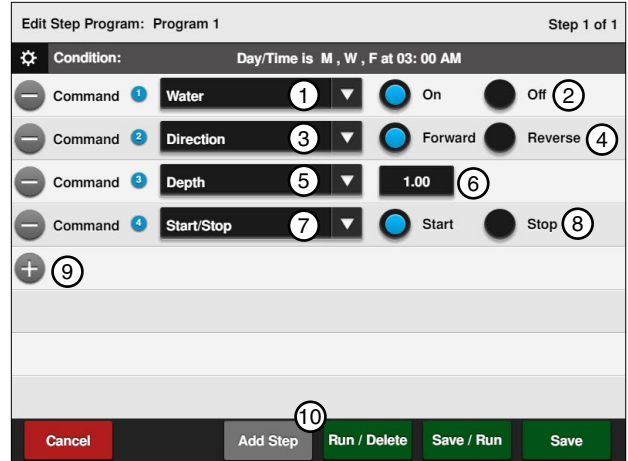

Figure 109-1 1. Water Command 6. Inches
4. Enter the commands to execute on Mondays, Wednesdays, and Fridays at 3:00 AM. Refer to Figure 109-1.